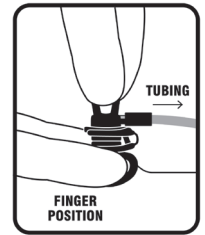

Figure 5
1. **Position forefinger and middle finger onto Pro-Lock™'s base from side opposite of extension tubing.** With available hand, firmly grasp wings between thumb and forefinger (Fig.5).
15. Stabilize port by placing two fingers on the base of the Pro-Lock™ CT Safety Infusion Set (from side opposite of extension tubing (Fig. 5).